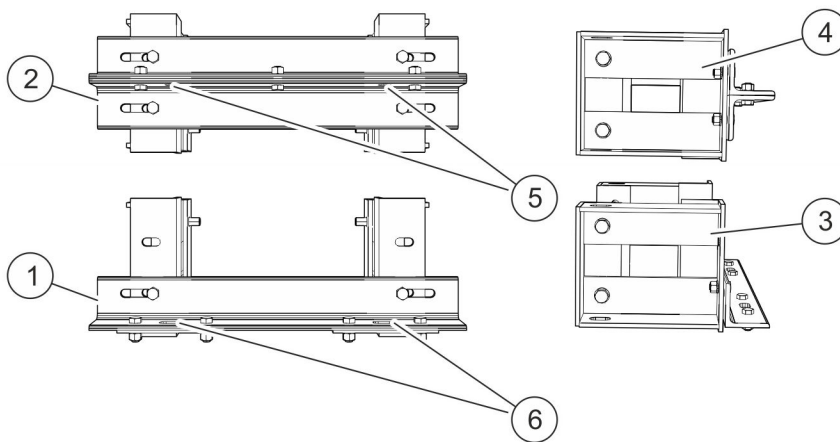

Fig. 15: Aluminium brackets, front view and side view
2. Screw the mounting parts for the bottom bracket (Fig. 15/3) into the fastening sockets on the mast.
3. Screw the mounting parts for the top bracket (Fig. 15/4) into the fastening sockets on the mast.
Carefully screw the bottom bracket (Fig. 15/1) onto the mounting parts loosely enough that it can still slide.
5. ➤ Screw the two top brackets (Fig. 15/2) onto the fastening sockets on the mast.
6. ➤ Connect the top bracket (Fig. 15/2) with three bolted connections.
Carefully screw the top brackets (Fig. 15/2) onto the mounting parts loosely enough that the top brackets can still slide.
9. ➤ Align the two top aluminium brackets (Fig. 15/2) vertically to the middle of the mast axis.
10. ➤ Align the bottom aluminium bracket (Fig. 15/1) as follows: the holes for fastening the fulcrum pin in the top aluminium brackets (Fig. 15/5) are located centrally above the holes for fastening the fulcrum pin in the bottom aluminium bracket (Fig. 15/6).